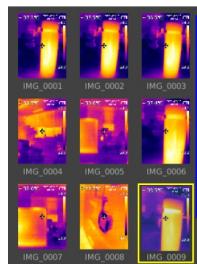

Fig. 27
3. Use the \langle and \rangle buttons to scroll through the list of saved images if applicable (Fig. 27).